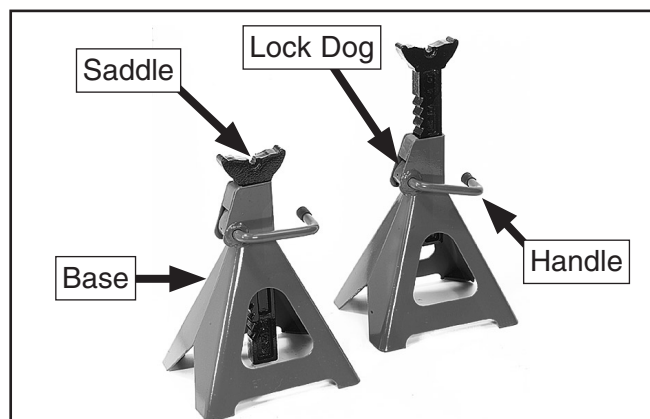

Figure 2. Jack stand terminology.
1. See **Figure 2** to familiarize yourself with the jack stand part names.
8. Place the jack stands under the vehicle, and extend the posts (**Figure 2**) to the height of the axle, frame, or location that can support the weight of the vehicle.
9. Make sure that both jack stand lock dogs (**Figure 2**) fully engage the teeth in the ratchet bar, and that when the vehicle is lowered, it is level and the saddle is centered under the load points.